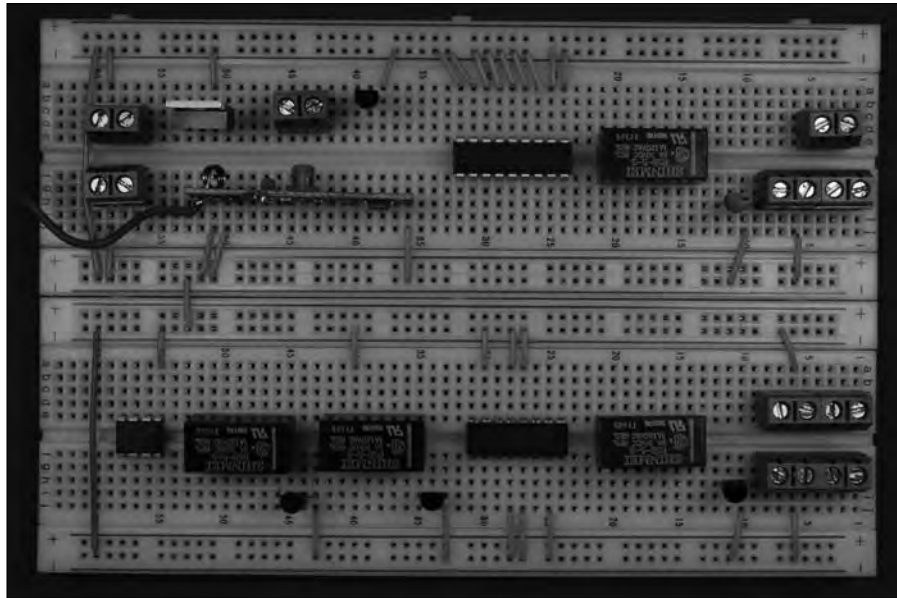

Figure 13-21:
4. Insert wires to connect the ICs, voltage regulator, transistors, relays, and terminal blocks to the ground bus. Then insert wires between the ground buses to connect them, as shown in Figure 13-21.